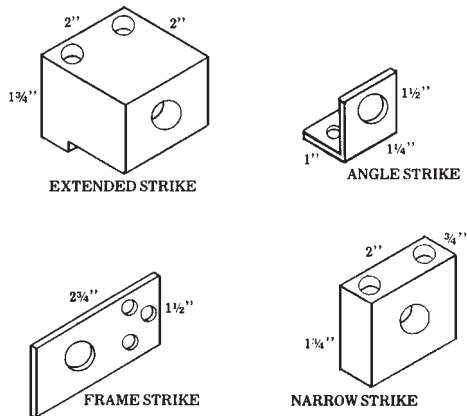

Figure 19.62 Strikes. (*Security Engineering, Inc.*)
4. Using the mounting holes in the lock base and strike as templates, mount the solenoid lock and strike with the screws provided. (Several types of strike are available and can be used depending on the situation. See Fig. 19.62.)